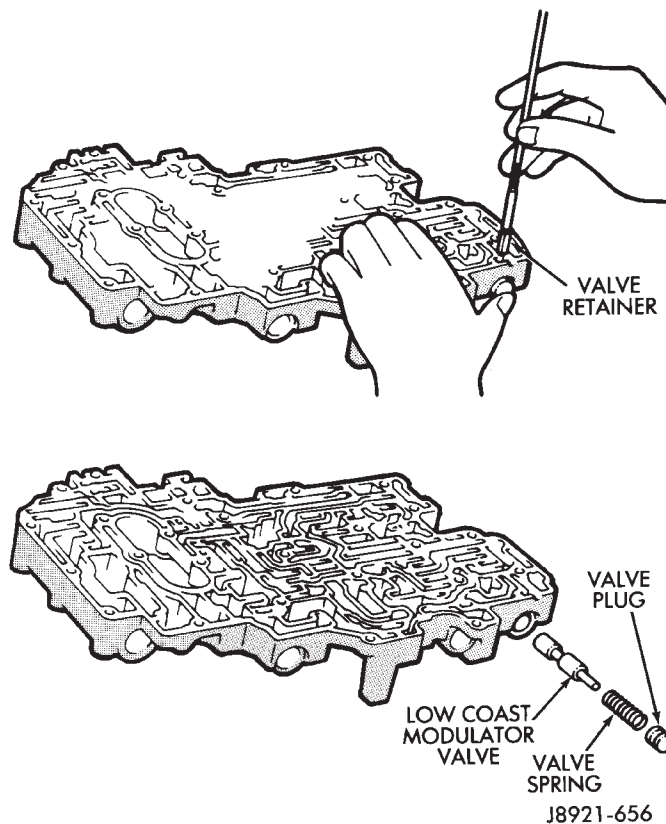

Fig. 13 Removing/Installing Low Coast Modulator Valve
(3) Install low coast modulator valve, spring and plug in valve bore. Press valve plug inward and install retainer (Fig. 13).